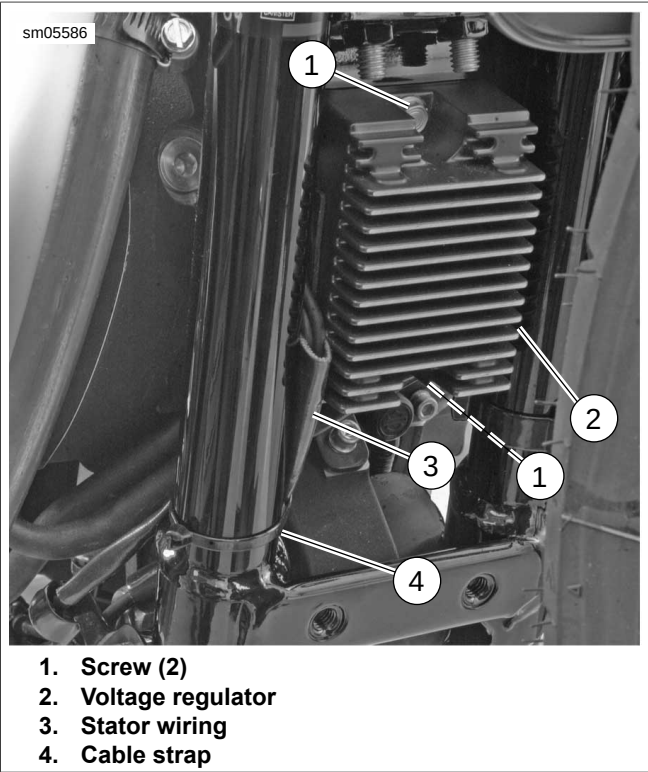

Figure 6-94. Stator Wire Routing: XR 1200X
4. See Figure 6-94. Remove screws (1) from locations at top and bottom of voltage regulator (2). Remove regulator from vehicle, carefully threading harnesses through opening in regulator mounting bracket.